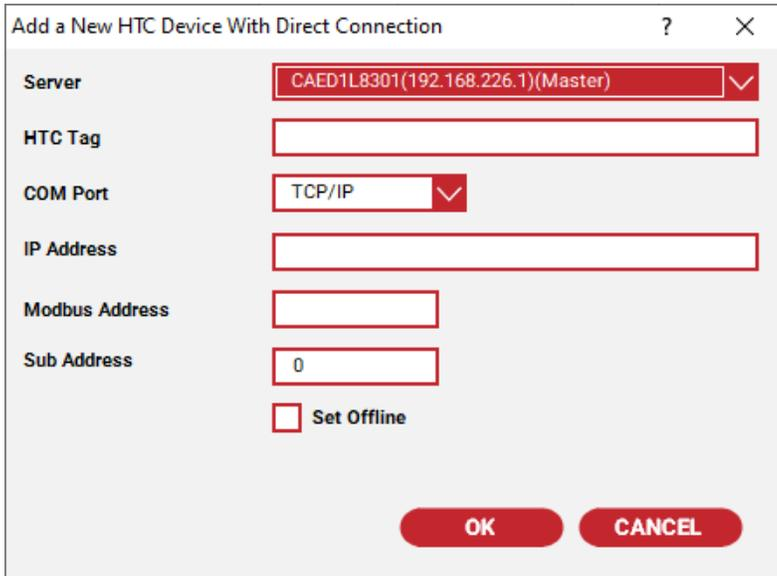
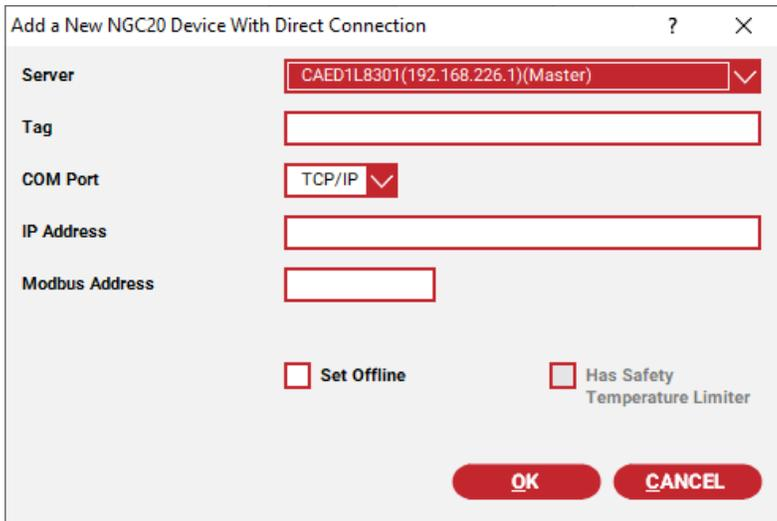

Figure 3-15 Add a New HTC Direct Window
Figure 3-16 Add a New NGC-20 Device with Direct Connection Window
3. Select **Add HTC Direct** or **Add NGC-20 Direct**. The appropriate configuration window is displayed (refer to Figure 3-15 Add a new HTC Direct Window, or Figure 3-16 Add a New NGC-20 Device with Direct Connection Window).